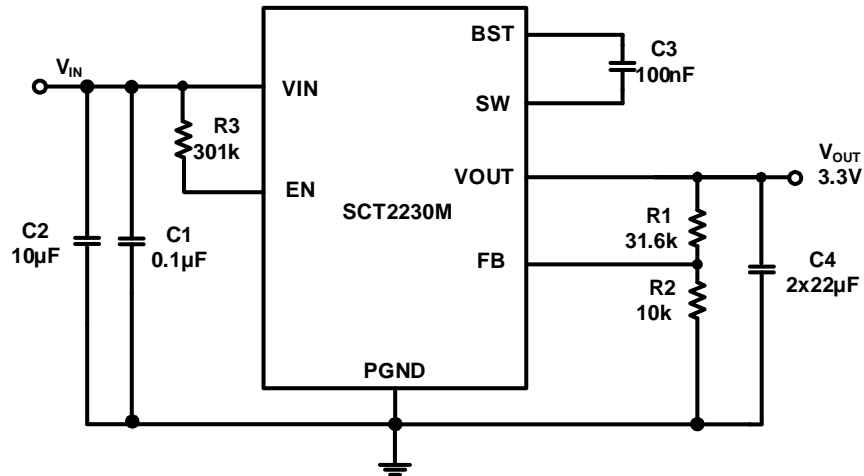

Figure 8. 12V Input, 3.3V/2A Output
The SCT2230M features external programmable output voltage by using a resistor divider network R1 and R2 as shown in the typical application circuit Figure 8. Use equation (8) to calculate the resistor divider values.